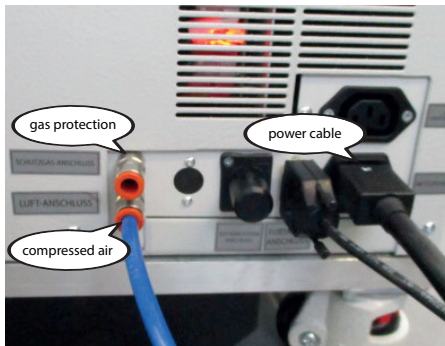

Figure 43 – Rear user panel
- Connect the power cable to the female socket on the rear of the machine, as indicated in Figure 43;
- Connect the compressed air and gas hoses to their respective ports on the rear panel (figure 43);